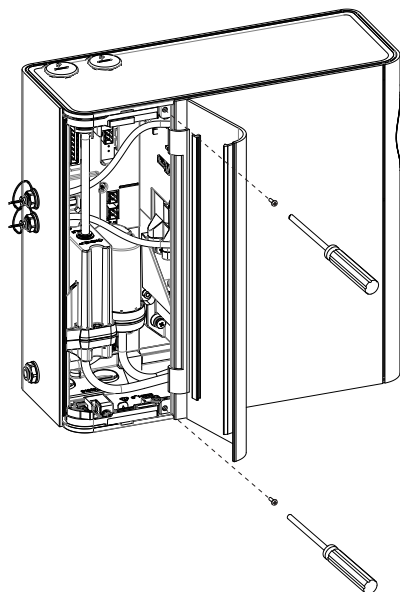

Figure 7-3: Fascia removal - remove screws
2. Remove the two screws along side the door hinge, as shown below in Figure 7-3.